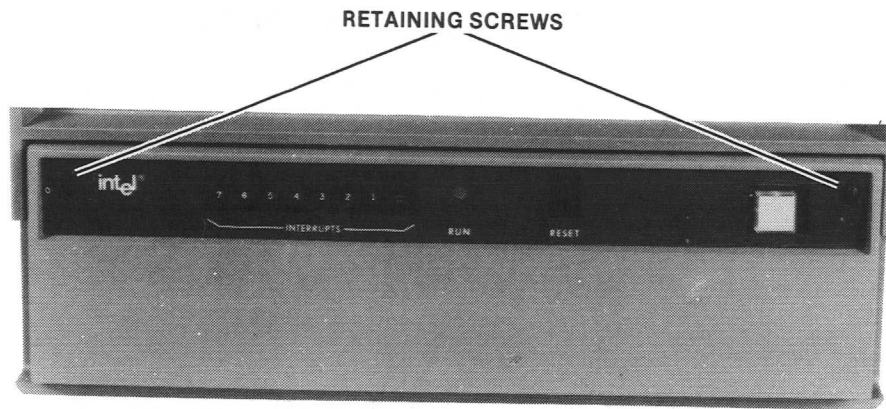
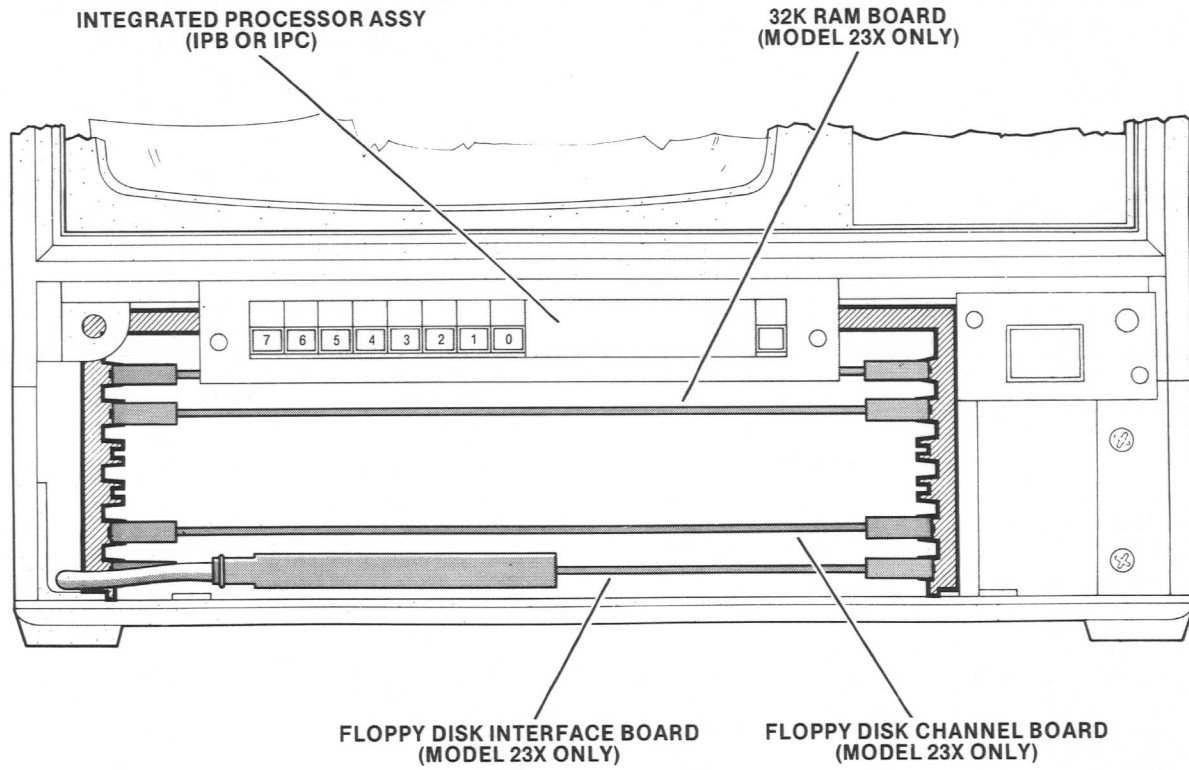
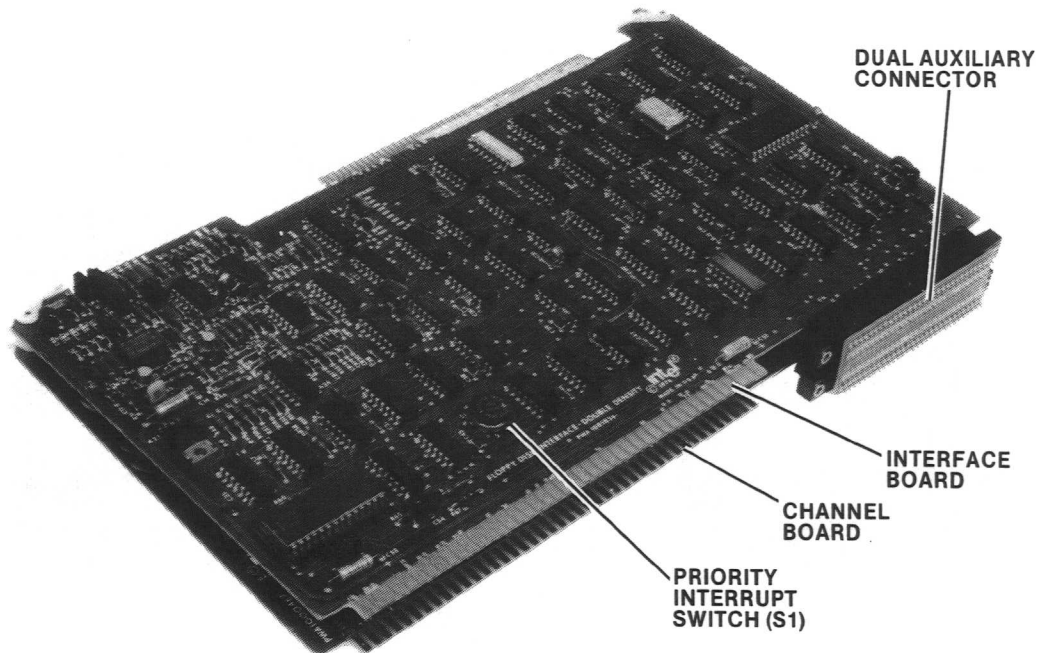

Figure 2-6. Model 22X/23X System Front Panel
Figure 2-7. Model 22X/23X System Cardcage
Figure 2-9. Dual Double Density Diskette Drive Controller
7. On front panel, rotate the two retaining screws counterclockwise and remove panel. (See figure 2-6.) Remove and discard foam packing material. Remove integrated processor assembly (IPB or IPC) mounted in top slot of cardcage by pulling outward on card extractors at each side of assembly. Refer to figures 2-7 and 2-8. Once IPB/IPC has been removed, press firmly inward on all integrated circuits mounted in sockets to ensure proper seating. Replace IPB/IPC *in the top slot* of cardcage; push firmly inward on card extractors to seat IPB/IPC fully into its backplane connector.
10. Examine the two printed circuit boards in the bottom two slots of cardcage. Remove large cable connector from interface board, and then remove *both* boards at once. A dual auxiliary connector is mounted on left rear, connecting both the interface board and channel board. (See figure 2-9.) Remove this connector.
Figure 2-9 shows the dual auxiliary connector installed such that the interface board will be mounted above the channel board when installed in the cardcage. As shown in figure 2-7, the positions of these boards can be reversed without affecting their operation.